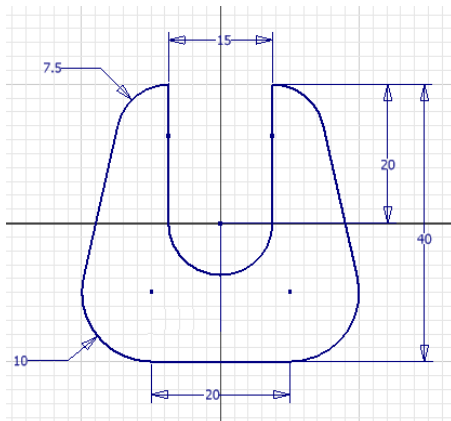

Figure 3-61 Dimensioned sketch for Tutorial 3
- Add the required dimensions and constraints to the outer loop, refer to Figure 3-61.
With this step, all the dimensions have been applied to the sketch, refer to Figure 3-61, except the horizontal dimension between the center points of arcs 4 and 6 or arcs 8 and 6. The need of these dimensions depends on the constraints and dimensions assumed while drawing the sketch. If the sketch gets over-constrained, the **Autodesk Inventor Professional** message box is displayed. Choose **Cancel** from the message box. In this case, the dimension has already been assumed.